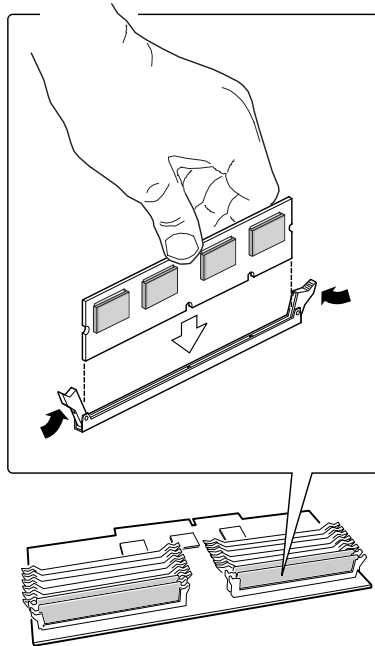

Figure 12: Installing a DIMM
3. Insert the bottom edge of the DIMM into the socket, then press down firmly on the DIMM until it seats correctly (see Figure 12).